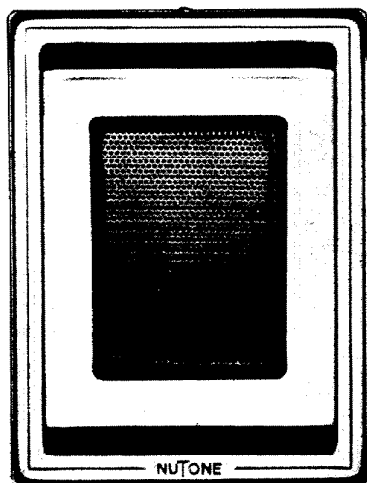

Fig. 10. Model 2571 outside door remote speaker station.
2. Model 2571—3½ inch speaker (Fig. 10).
Installing Model 2571 Door Speaker (Figs. 10 and 11).